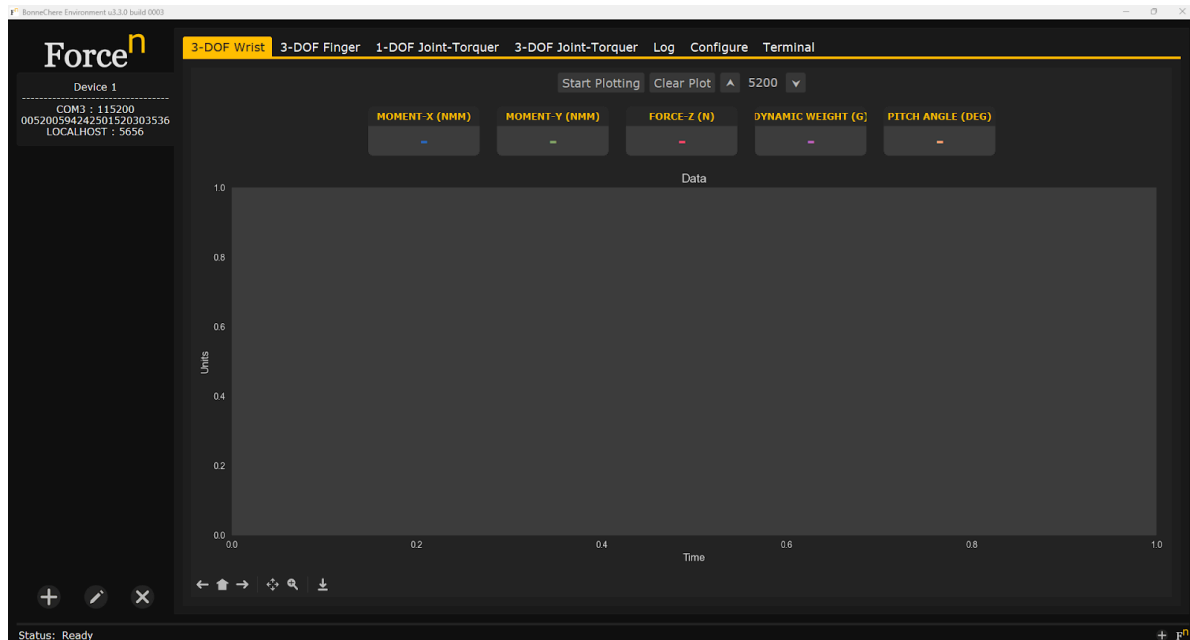

Figure 3: BonneChere environment with a successfully loaded sensor
- When the device is successfully connected, you will see the device information such as the unique identifier and firmware version added to the left side of the program as shown below in Figure 3.